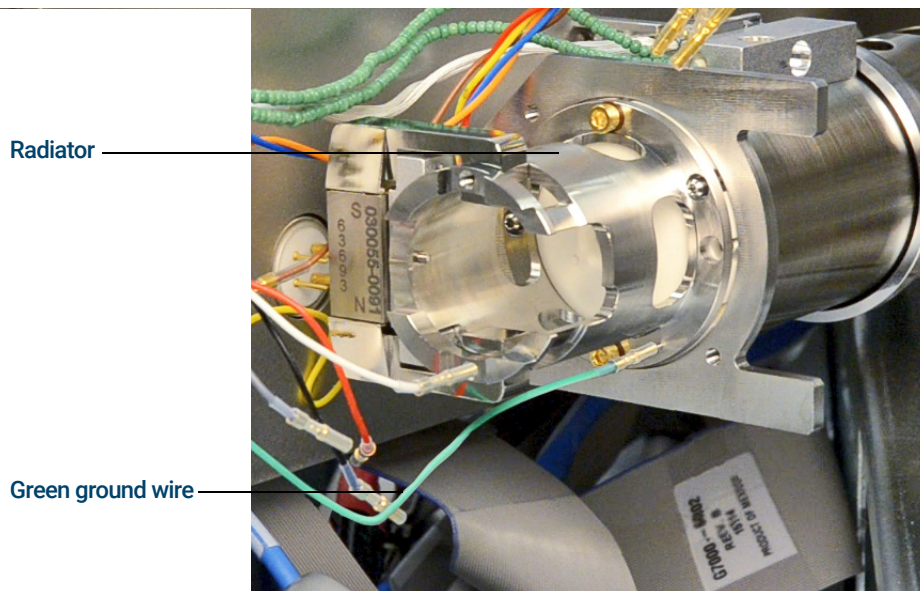

Figure 70 CI Source radiator
- 2 Disconnect the green ground wire from the radiator. (See **Figure 70**.)